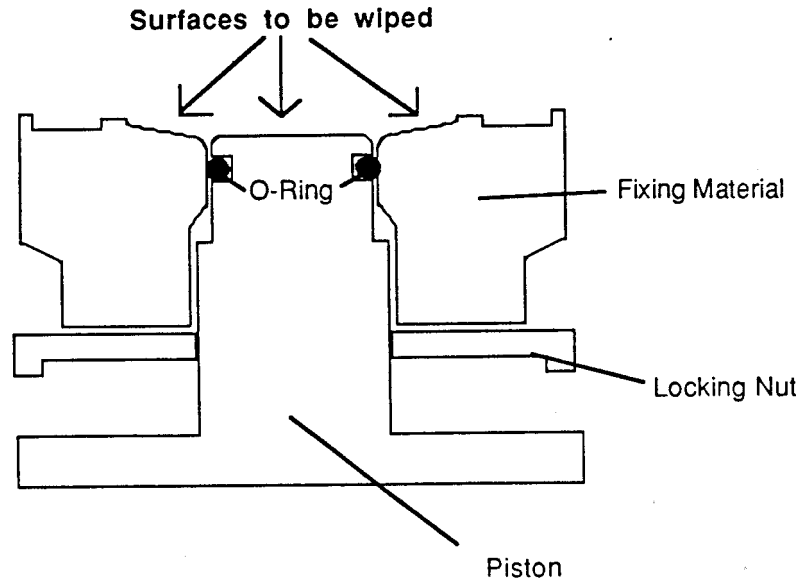

Figure 6-3-15
- F. Install the piston to the Fixing material so that the surface of Fixing material and that of Piston becomes smooth as shown in Figure 6-3-15. Fix the piston temporarily by the locking nut, and wipe the surface with a lint-free tissue which is moistened with ethyl-alcohol to remove silicon grease on the surface.